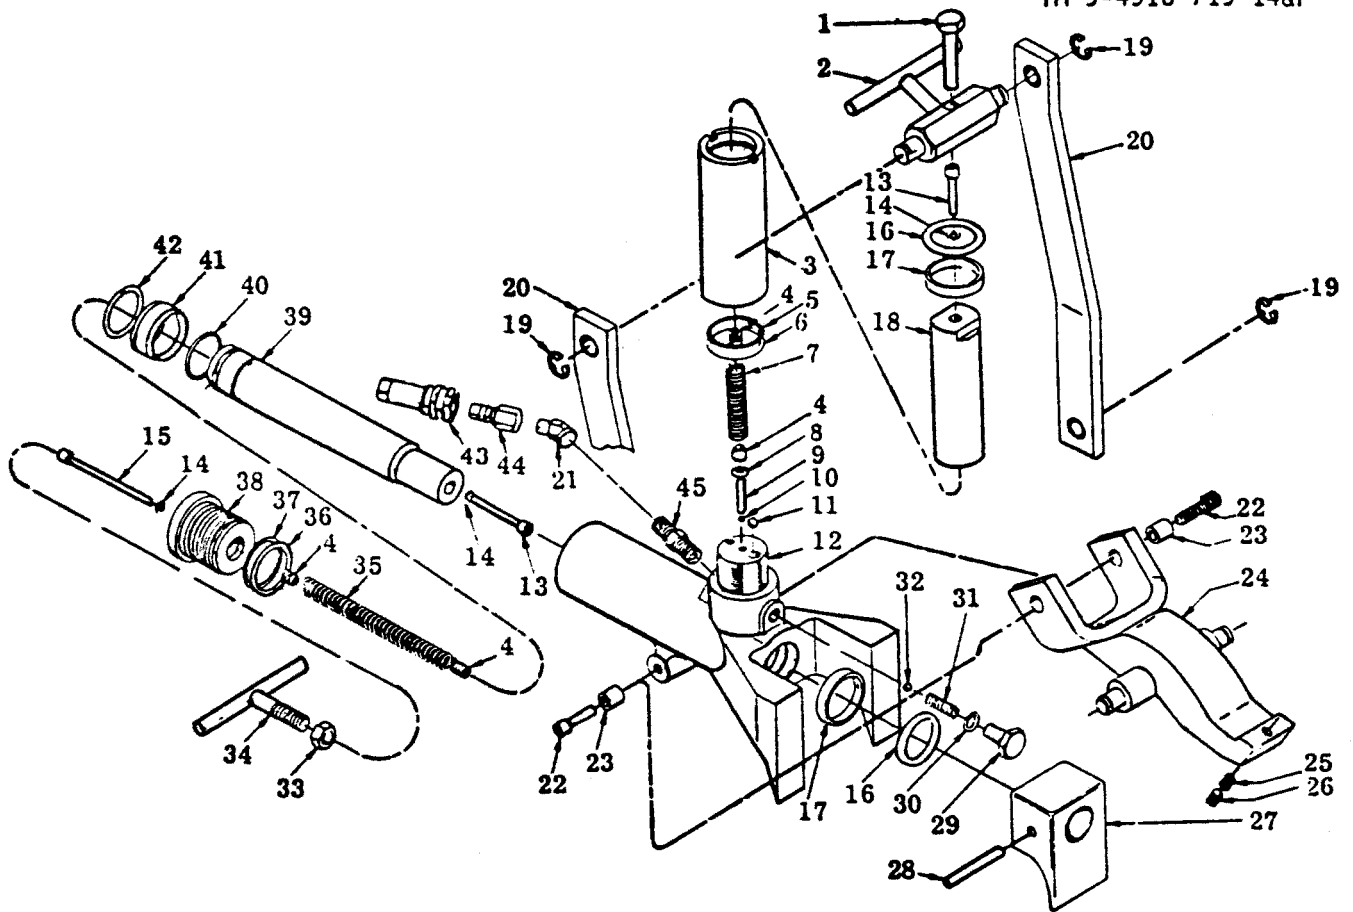

Figure 5. Bead Breaker Parts Drawing
Table 1 lists problems, probable causes and solutions of the bead breaker and pump. Refer to Figures 5 and 6 for item numbers.
Rods fail to retract	Hydraulic pump doesn't release 1. Dirt under pump pedal in release valve area clean.  Bearing is misaligned on breaker rod (item 41, Figure 5) - correct or replace.  Broken or weak springs (item 7 or 35) replace.
Both rods extend at the same time.	Hydraulic pressure in breaker cylinder increases before clamping rod is fully extended. 1. Sequence ball (item 32, Figure 5) not seated or broken or weak spring (item 31, Figure 5) correct or replace. 2. Loose screw (item 9, Figure 5) and ball not seated (item 10, Figure 5) correct or replace.
Breaker rod retracts after clamping rod.	Hydraulic pressure in breaker cylinder is not being released. 1. Fluid return ball (item 11, Figure 5) didn't unseat correct or replace. 2. Dirt plug in return port clean.  Weak or broken spring in breaker cylinder replace.